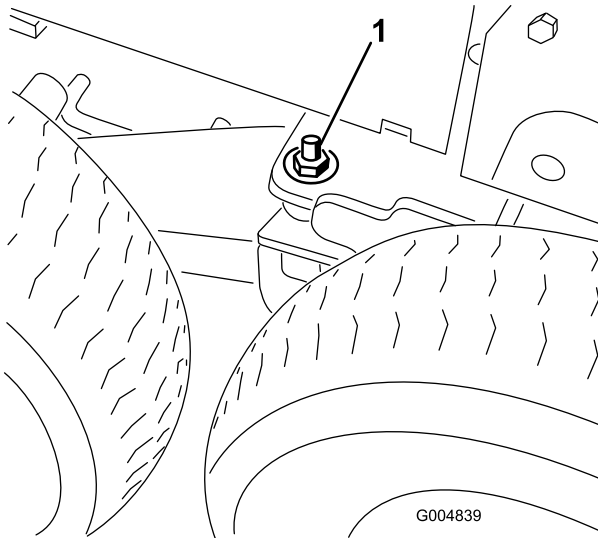

Figure 121
32. Remove the flat washer (1/2 inch) and nut (1/2 inch) installed on the stud on the bogie pivot (Figure 121).
38. Lower the floor jack until the front wheels support the frame. Install the flat washers (1/2 inch) and locknuts on the bogie pivot stud (Figure 121) and torque to 75 ft-lb (102 N·m).